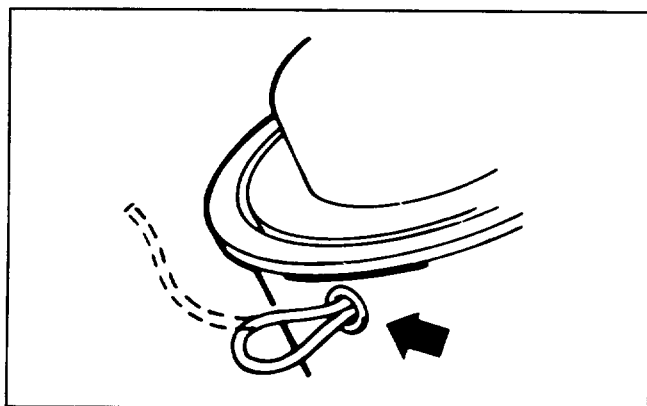

Figure 6
2. After each use, either retape or loop the line through the eyelet (Fig. 6) to prevent unraveling.
10. After each use, either retape or loop the line through the eyelet (Fig. 6) to prevent unraveling.